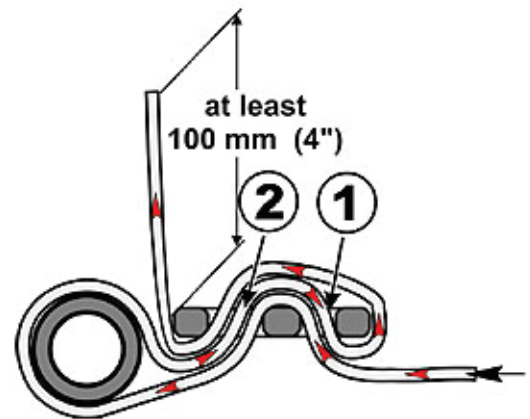

Figure 5
8. make sure the strap end protrudes at least 100 mm (4") or even longer from slot 2. If it is less than 100 mm disassemble and start over again. If longer, roll in the strap end and fix it by a cable tie to the shoulder belt (Figure 5).